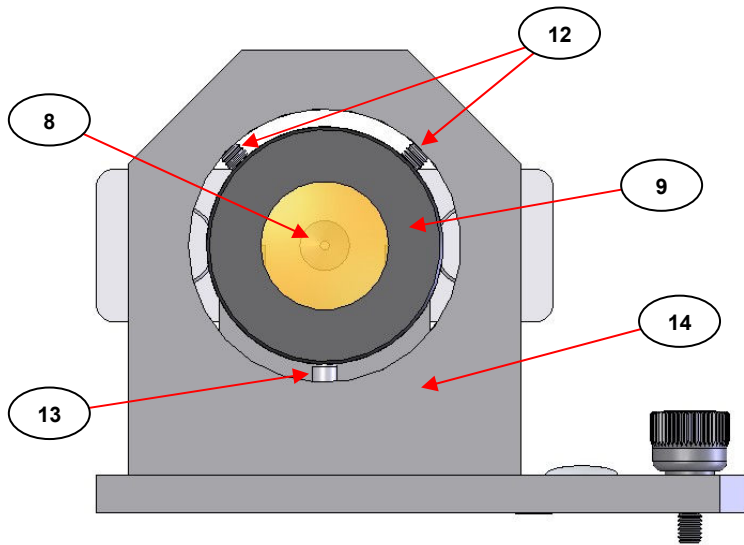

Fig 6. Output Lens for R to L Beam Spectrometers (End-on View)
From **Fig 6.** which is an alternative end-on view of the output lens assembly of parts, although the lens housing (9) is obscuring a view of the ring mount (10) it can be seen that this complete assembly is adjusted for concentricity of the lens material (8) with the DC-3 diamond window aperture by adjustment of the two grub screws (12). The two grub screws (12) affect the concentric position of the ring mount (10) part which is supported on a spring loaded stud (13) at the base of the overall support frame (14). As either one of the two grub screws (12) is loosened or tightened the concentricity of the lens (8) and lens housing (9) assembly is affected by the overall movement of the ring mount (10) allowed from the spring loaded stud (13).